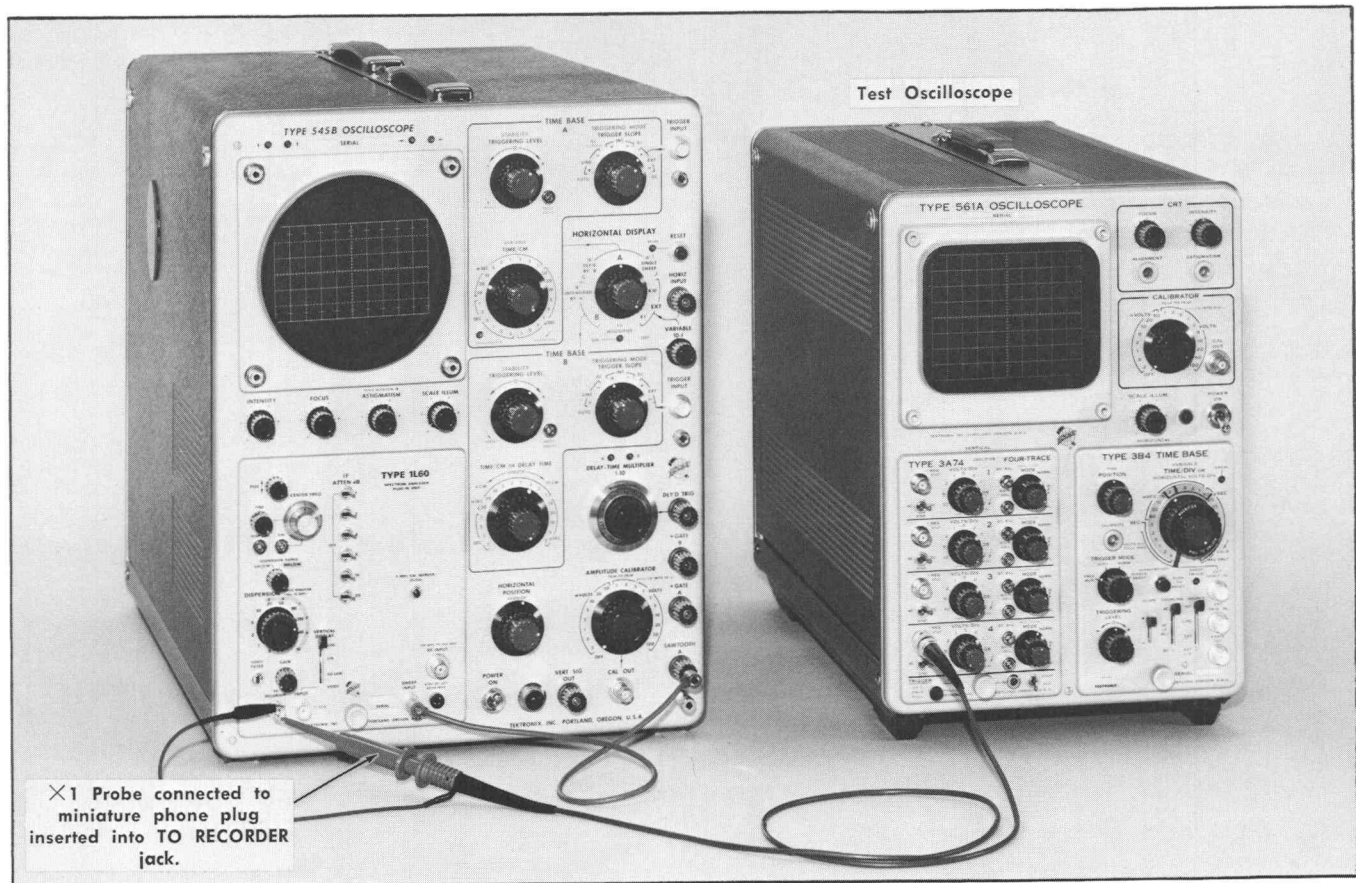

Fig. 6-21. Setup for checking TO RECORDER Output Amplitude (Step 17).
a. Connect the equipment as shown in Fig. 6-21.